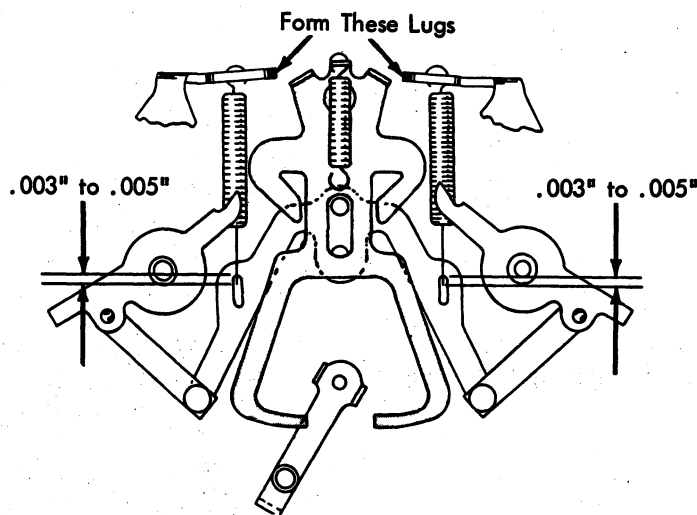

FIGURE 265. Centering Springs Adjustment
1. **Centering Springs** - With the ribbon reverse interposer centered, form the lugs of the ribbon feed plate for .003" to .005" clearance in the centering spring loops (Fig. 265).